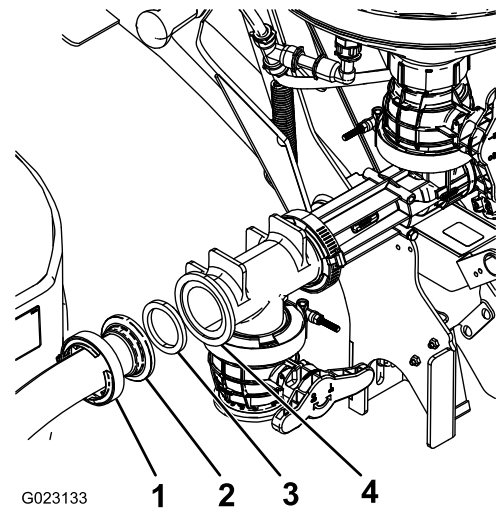

Figure 18
2. Attach the other end of the hose to the forward-facing opening of the eductor using a gasket and hose clamp (Figure 18).